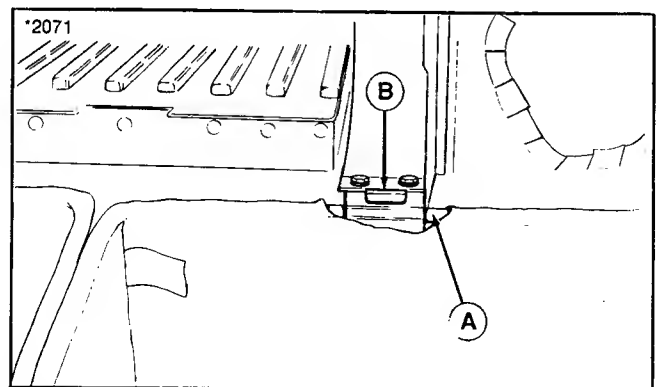

Figure 9.
12. Open grass bag cover and install grass bag frames (A, figure 9) to support brackets (B). Make sure cover handle latches to grass bag frames. Plastic cover should be pre-assembled over grass bag frames.